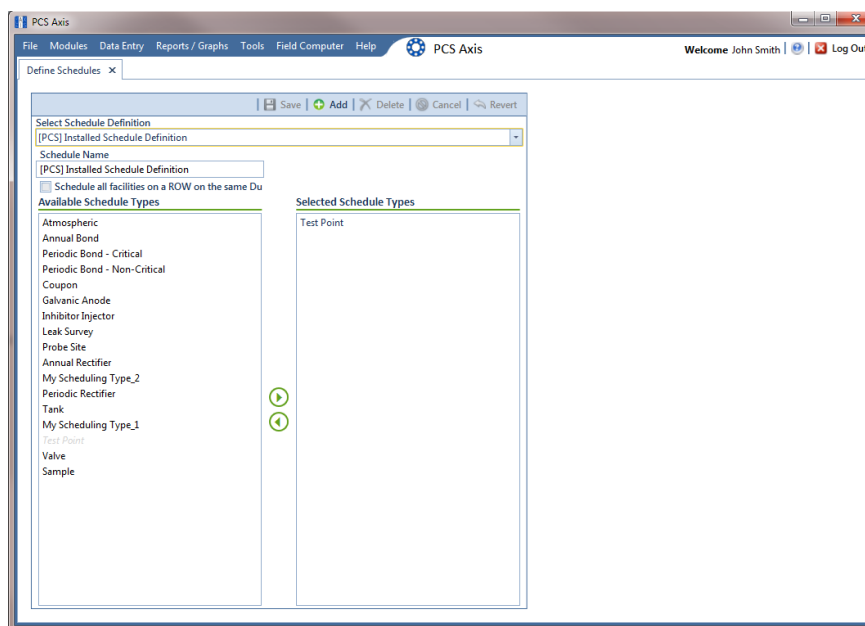

Figure 9-9. Define Schedules
- 1 Click **Data Entry** > **Define Schedules** to open the *Define Schedules* window (Figure 9-9).